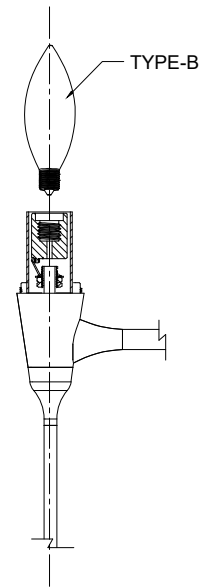

FIGURE-03
- 9. Place the lamp into the socket of the fixture. (See FIGURE-03)